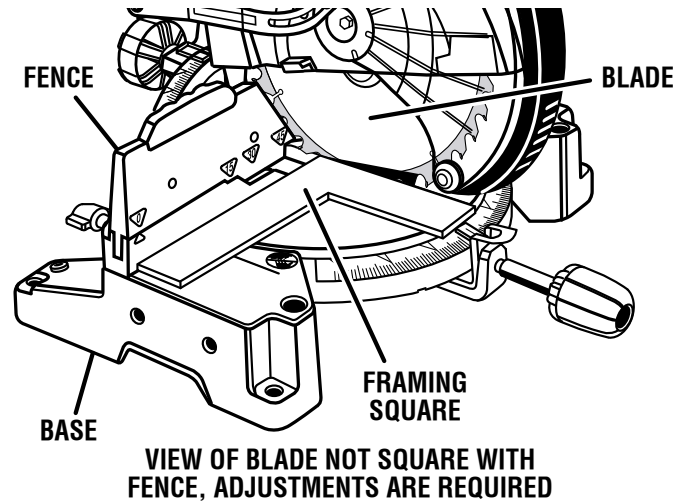

Fig. 25
- If the front or back edge of the blade angles away from the square as shown in figures 25 and 26, adjustments are needed.